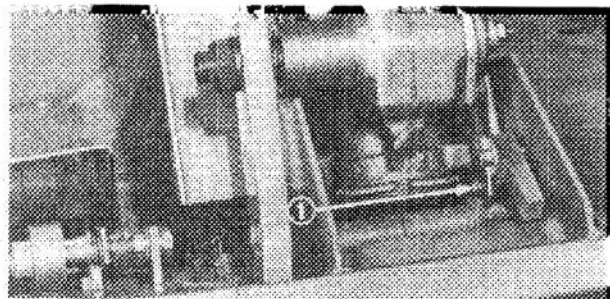
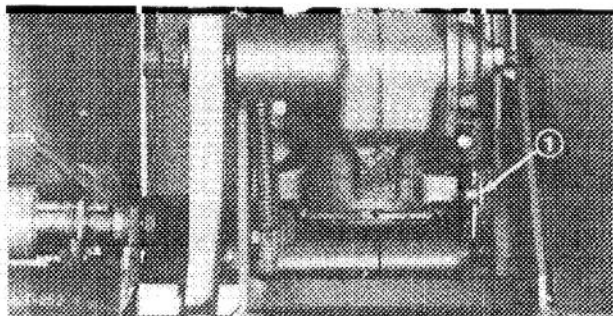

Figure 29
Figure 30
4. Remove cotter pin and flatwasher from bottom end of parking brake rod (Fig. 29) and cotter pin and flatwasher holding rack (Fig. 30). Lift up on gear box and remove brake rod from rack. Remove the other flatwasher from the rod and slide rod out of hole in the steering tower.
2. Remove cotter pin and flatwasher securing lower end of parking brake rod (Fig. 29) and cotter pin and flatwasher securing rack (Fig. 30). Lift up on gear box, slide rack outward towards gear box off the pivot pin (Fig. 30). Slide rod out of rack.